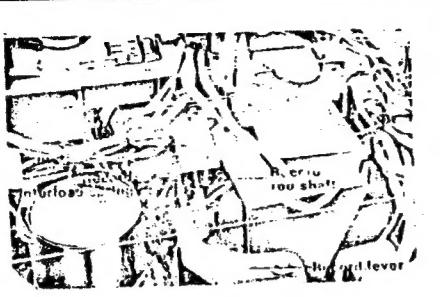

Fig. 9
NOTE: Set of the Cassette Mechanism Assembly: While pulling the record lever in the arrow direction (A), fix the cassette mechanism assembly so that the record rod shaft comes to the right side of the record interlock spring as shown in fig. 9.